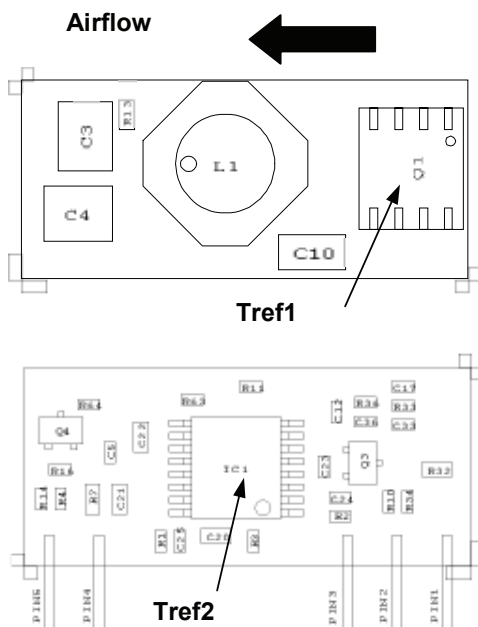
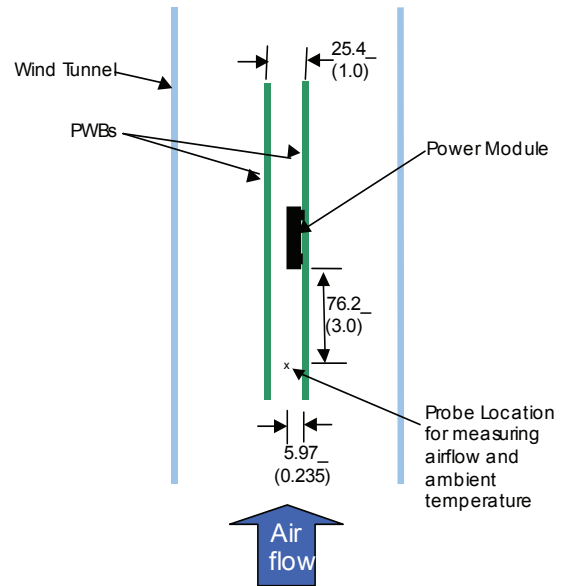

Figure 31. T_{ref} Temperature measurement location.
Figure 32. Thermal Test Set-up.
To provide over temperature protection in a fault condition, the unit relies upon the thermal protection feature of the controller IC. The unit will shutdown if the thermal reference point T_{ref2} , (see Figure 31) exceeds $140^{\circ}C$ (typical), but the thermal shutdown is not intended as a guarantee that the unit will survive temperatures beyond its rating. The module will automatically restarts after it cools down.
Considerations include ambient temperature, airflow, module power dissipation, and the need for increased reliability. A reduction in the operating temperature of the module will result in an increase in reliability. The thermal data presented here is based on physical measurements taken in a wind tunnel. The test set-up is shown in Figure 32. Note that the airflow is parallel to the long axis of the module as shown in figure 31. The derating data applies to airflow in either direction of the module's long axis.
The thermal reference point, T_{ref} used in the specifications is shown in Figure 32. For reliable operation this temperature should not exceed 115°C. The output power of the module should not exceed the rated power of the module ($V_{o,set} \times I_{o,max}$).